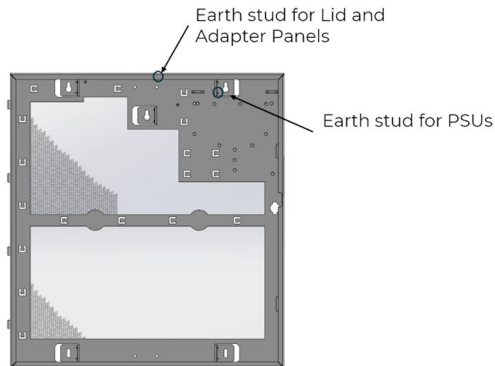
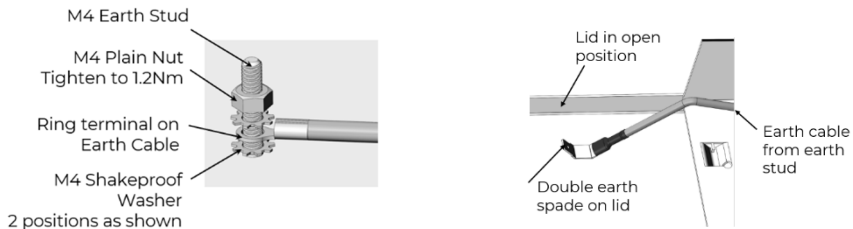

Figure 4: XL Enclosure Earth stud positions
Figure 5: Earth Cable assembly
- Assemble Earth stud at PSU position Figure 4 and as shown in Figure 5
- Fit Earth Spade connector to Spade terminal on lid (Figure 5)